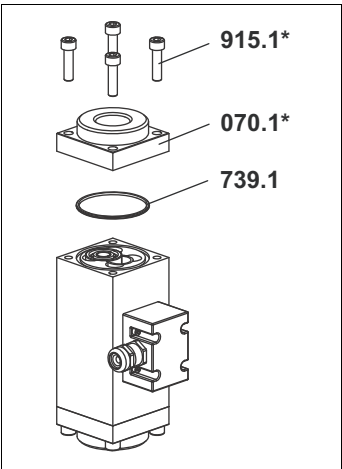

Fig. 1
1. Remove the socket screws **915.1***, take off end cover **070.1*** and o-ring **739.1**, see Fig. 1, page 26.